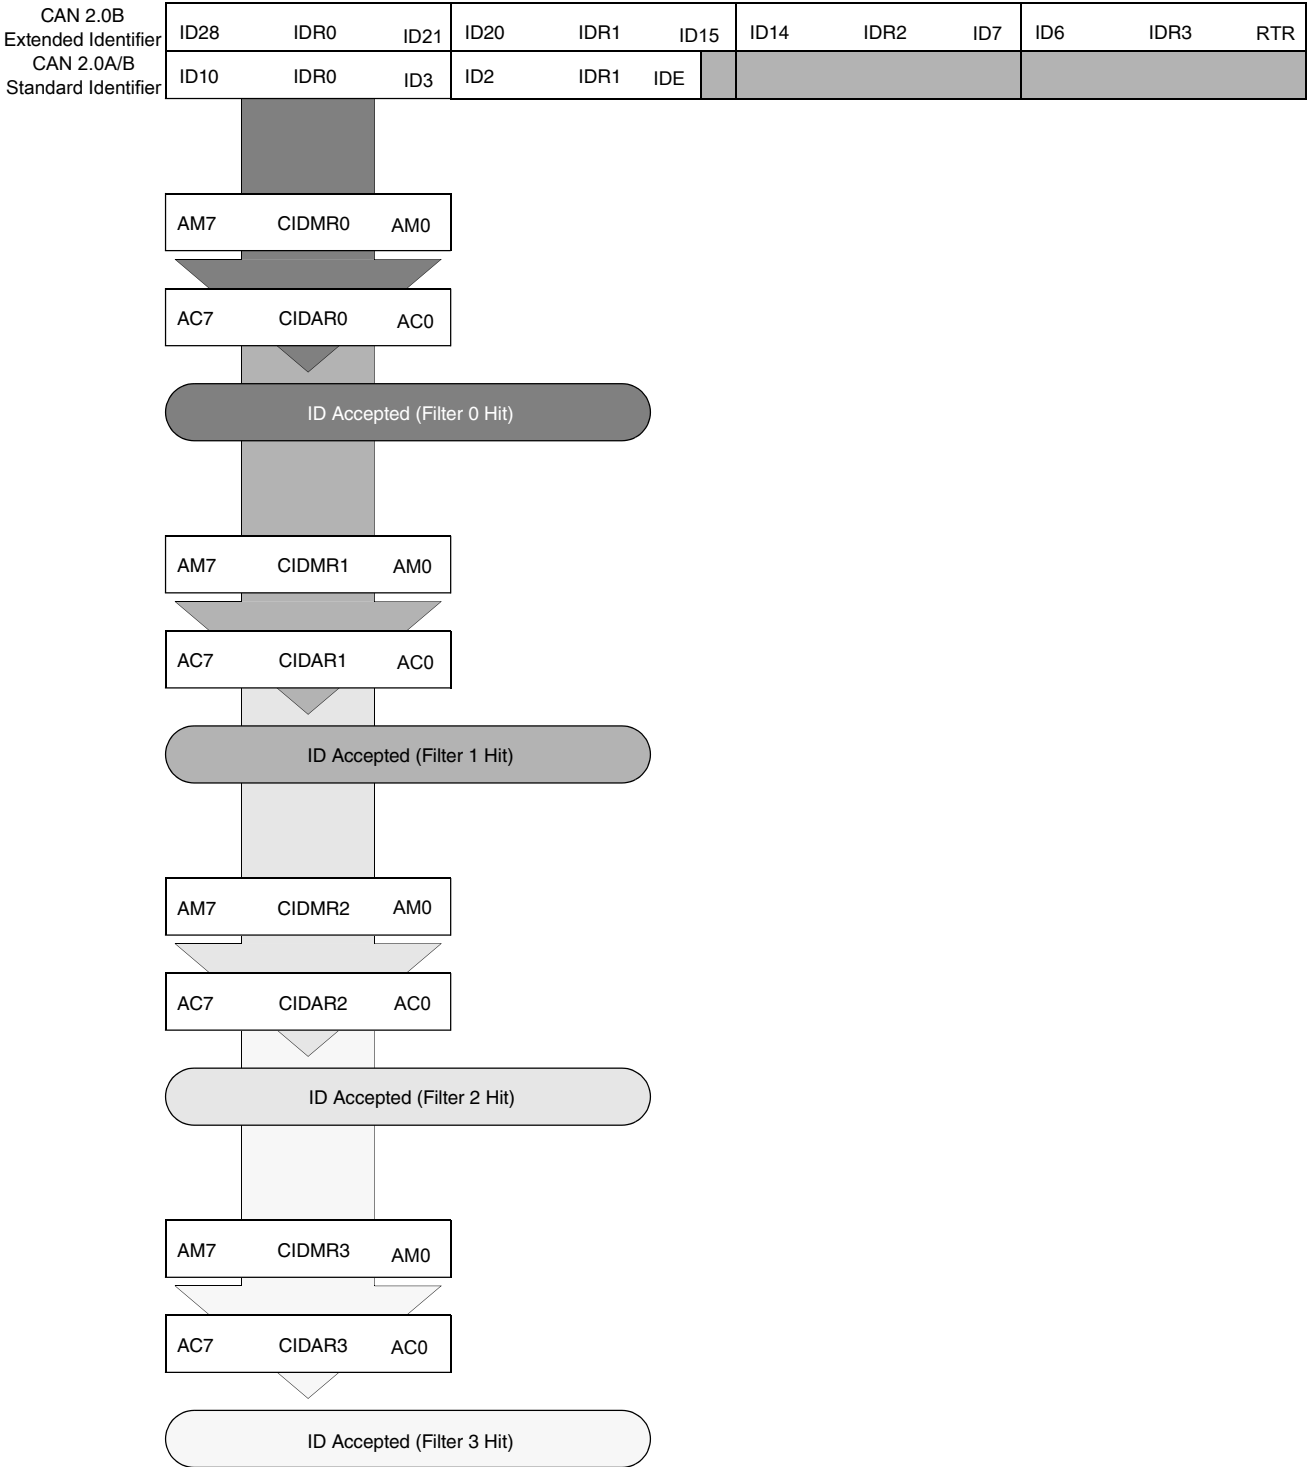

Figure 32-79. 8-bit maskable identifier acceptance filter
- Eight identifier acceptance filters, each to be applied to the first 8 bits of the identifier. This mode implements eight independent filters for the first 8 bits of a CAN 2.0A/B compliant standard identifier or a CAN 2.0B compliant extended identifier. Figure 32-79 shows how the first 32-bit filter bank (CANIDAR0-CANIDAR3, CANIDMR0-CANIDMR3) produces filter 0 to 3 hits. Similarly, the second filter bank (CANIDAR4-CANIDAR7, CANIDMR4-CANIDMR7) produces filter 4 to 7 hits.